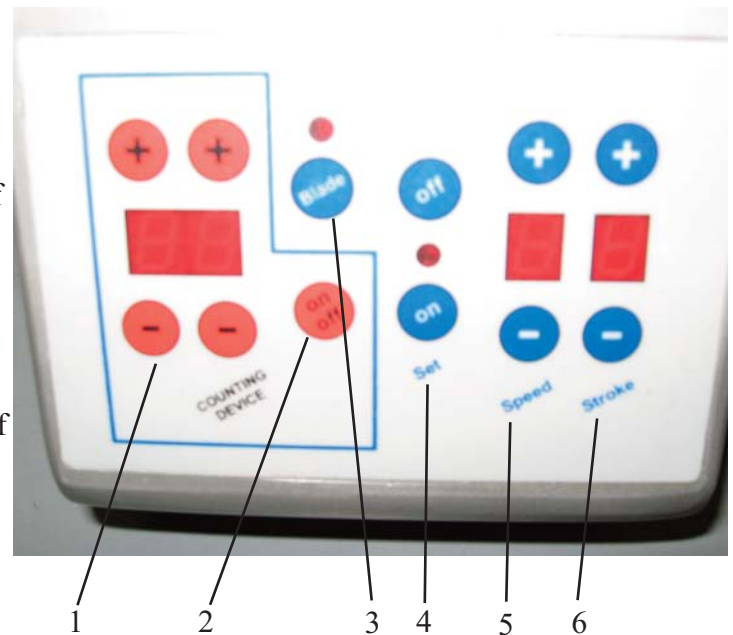

Figure 4
To turn this feature on, press the on/off button (Figure 4 [2]).
To set the desired number of slices to be cut, press the “+” or “-” buttons (Figure 4 [1]) to increase or decrease the set number of slices.
To turn this feature off, press the on/off button (Figure 4 [2]).
Blade Button: Press the blade button (Figure 4 [3]) to turn the blade on when operating the slicer in the manual mode.
Set Buttons: The on and off set buttons (Figure 4 [4]) start the slicer in the automatic slicing mode after the operator has set the operating mode switch to the automatic position and set the speed and stroke length.
Speed Buttons: The + and - speed control buttons (Figure 4 [5]) allow the operator to choose between four slicing speeds.
Stroke Buttons: The + and - stroke control buttons (Figure 4 [6]) allow the operator to choose between three carriage stroke lengths.
5. Press the blade button (Figure 4 [3]) on the control panel.
7. If you wish to use the automatic slice counting feature, press the counting device on/off button (Figure 4 [2]). The counting device LED display should now show “99”. Set the desired slice count from 1 to 99 by pressing the + and - buttons.
8. When you are ready to start slicing, press the “set on” button (Figure 4 [4]). The slicer should start slicing.
Warning: If the product needs to be adjusted during automatic slicing, **always** press the “set off” button (Figure 4 [4]). Turn the operating mode switch (Figure 3 [2]) to the neutral (center) position. Pull the carriage all the way towards you. Turn the slicer OFF and close the fence prior to adjusting the product and the last slice device.
9. To stop automatic slicing operation, press the “set off” button (Figure 4 [4]). Turn the operating mode switch (Figure 3 [2]) to the neutral (center) position. When using the counting device, the slicer will automatically stop after the set number of slices have been sliced. You can also stop the slicing operation in the middle of counting by pressing the “set off” button (Figure 4 [4]).